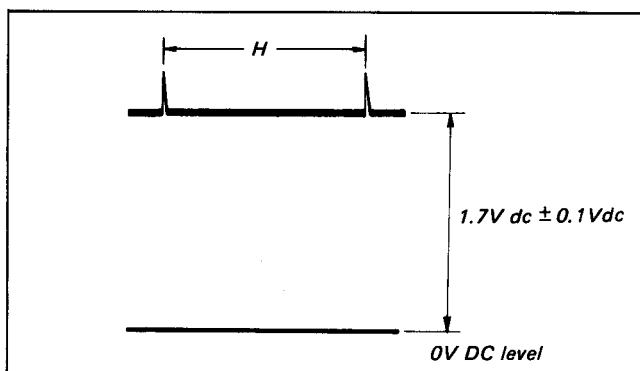

Fig. 5-27. AFC adjustment
- i) Adjust to $1.7V_{dc} \pm 0.1V_{dc}$ with RV006. (See Fig. 5-27.)